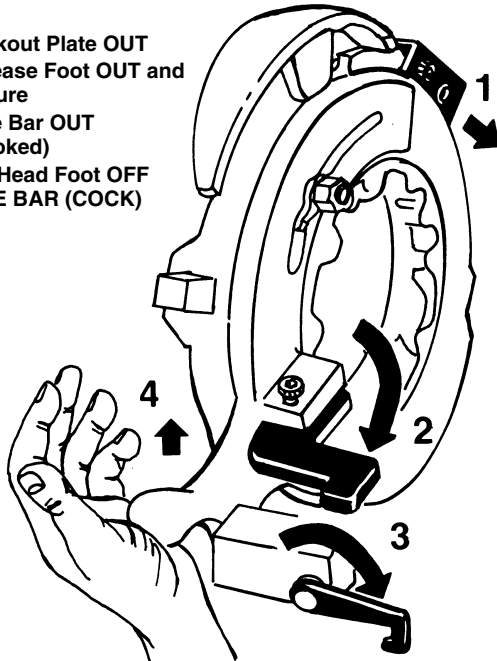

Figure 11 – Setting No. 714 or 914 Self-Opening Die Head for NPSM or BSPP Threads
1. Remove release foot screw from release foot pivot block. Unhook release foot spring from release foot. Rotate release foot out until hole in foot lines up with screw hole in pivot block. Reinsert screw until it engages release foot (Figures 11 & 15).
2. Position lockout plate (Figures 11 & 15).
3. Push carriage sine bar to far right end of carriage and rotate sine bar hook around until it engages the hole in end of carriage (Figures 11 & 15).